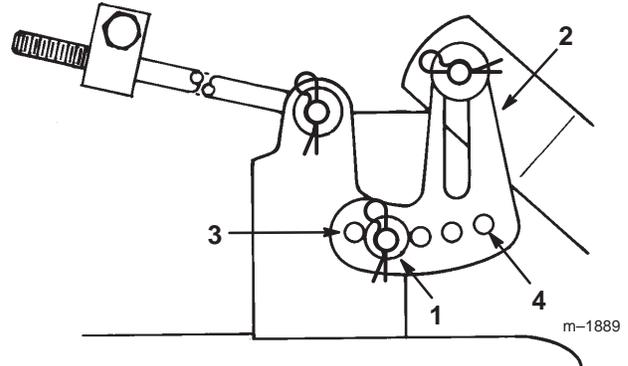

Figure 49
4. Remove the hair pin cotter and washer from the leveling bracket (Fig. 49). To level the blade(s), reposition the leveling bracket in a different hole and install the washer and hair pin cotter. (Fig. 49). A front hole lowers the blade height and a rear hole raises its height. Repeat this procedure on the opposite side.